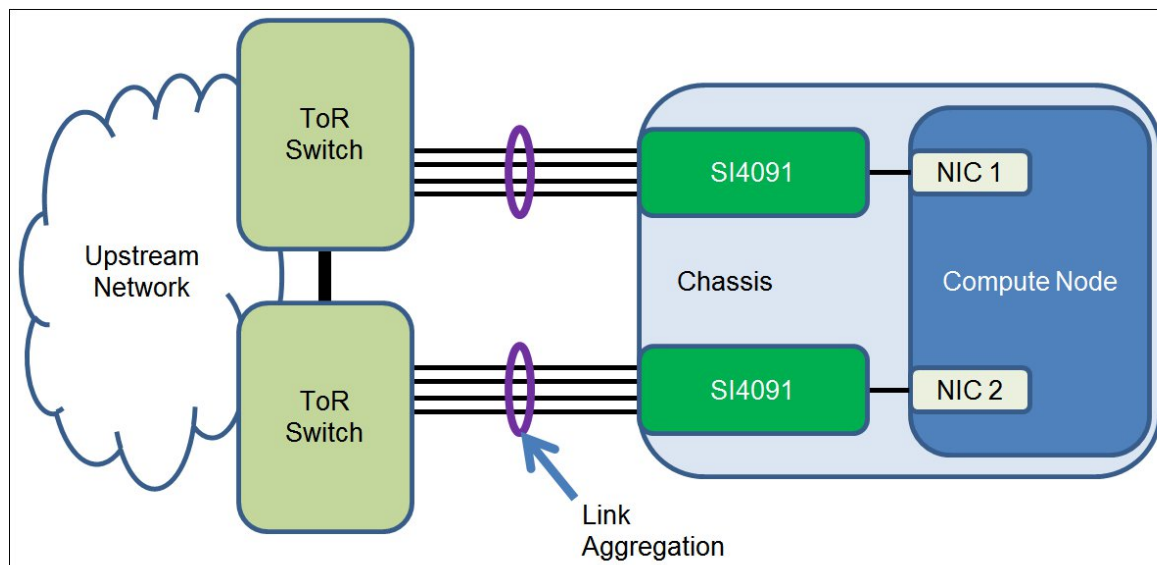

Figure 4. SI4091 connectivity topology: Link Aggregation
**Dual isolated SAN fabrics:** If you plan to use FCoE in a dual isolated SAN fabric design approach (also known as SAN air gaps), consider the SI4091 connectivity topology shown in Figure 4 (Link Aggregation).